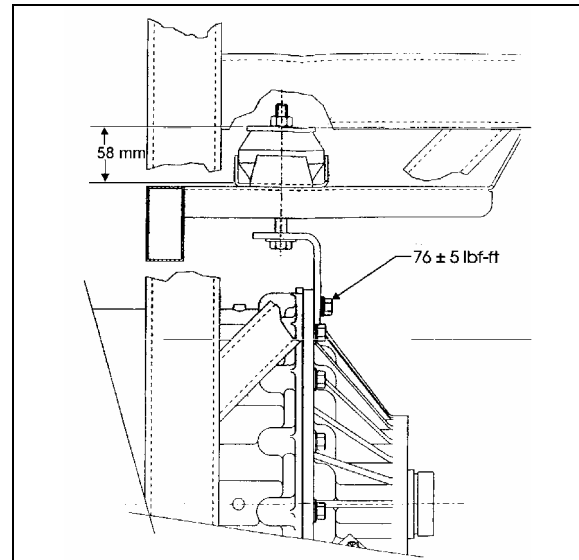

FIGURE 14: NUT TOLERANCE
10. If the vehicle is equipped with a retarder; install the bracket on the transmission and tighten the bolt to 71-81 lbf-ft (96-110 Nm). Install the transmission rubber mount between the rubber support and the frame with a bolt, nut and washer. Tighten the nut until the tolerance of 58 ± 2 mm is met (Fig. 14).